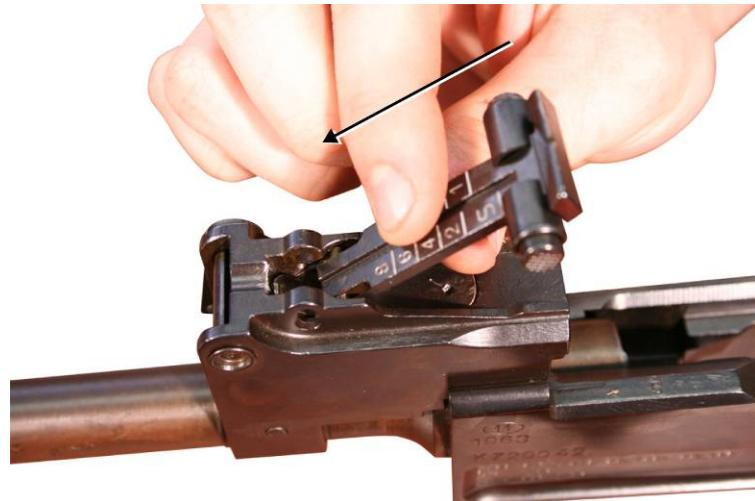

Figure 74. Installing the Rear Sight Assembly.
b. Holding the rear sight assembly at a 45° angle, push the studs on the bottom of the rear sight assembly down and forward into the grooves on the rear sight base until they are seated in the holes in the rear sight base. It may be necessary to use a dead blow mallet. Refer to Figure 74.